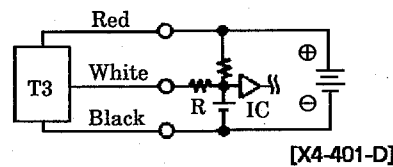

Fig. 4 An example of using capacitor type load together with current regulating resistor R. Use resistor with $R (\Omega)$ value bigger than $\frac{V}{0.10}$
- Install some protective circuit as per illustrated in Fig. 4 when capacitor type load (Capacitor) are to be used because those types are apt to generate dash current at turning switch on.